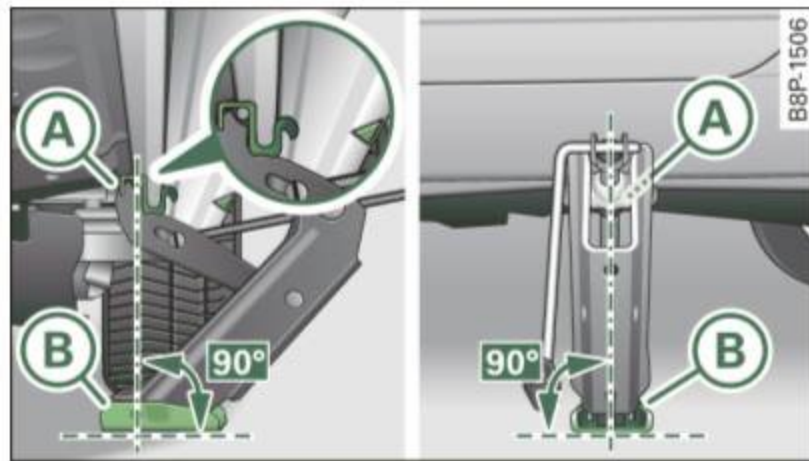

Fig. 190 Close-up:
- Align the jack so that the jack arm claw ⇒ fig. 190 (A) fits snugly around the underbody rib and the movable base plate (B) sits flat on the ground. The base (B) must be *vertical* under the lifting point (A).